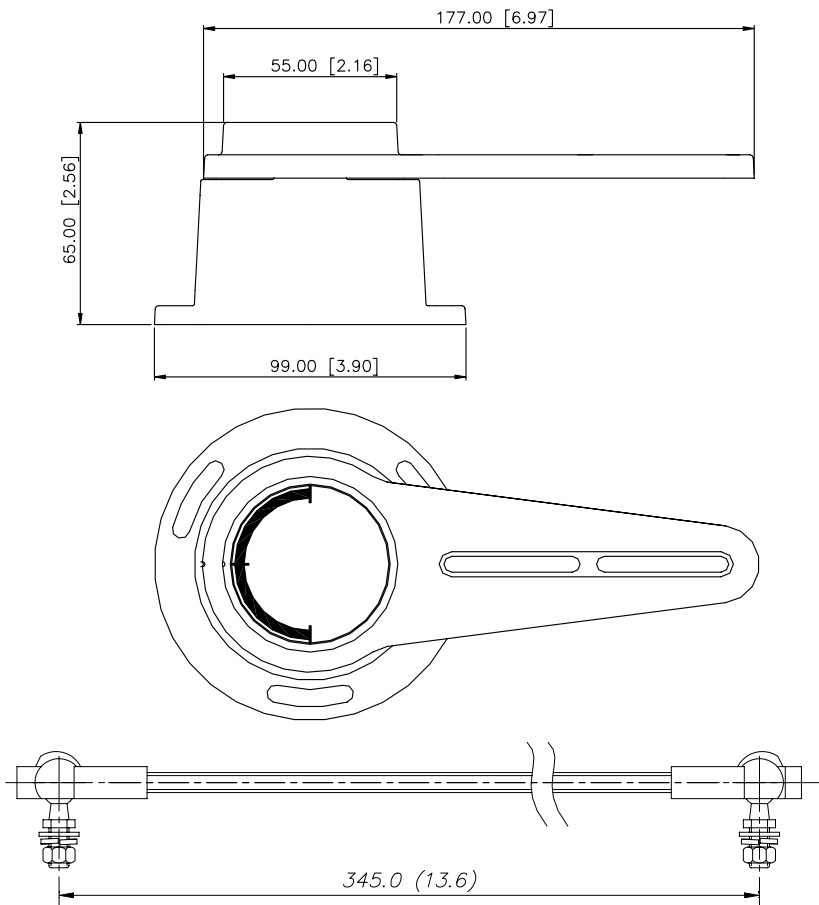

Figure 3-8 RF300S Rudder Feedback Unit Dimensions
- Dimensions: See Figure 3-8 and Figure 4-2